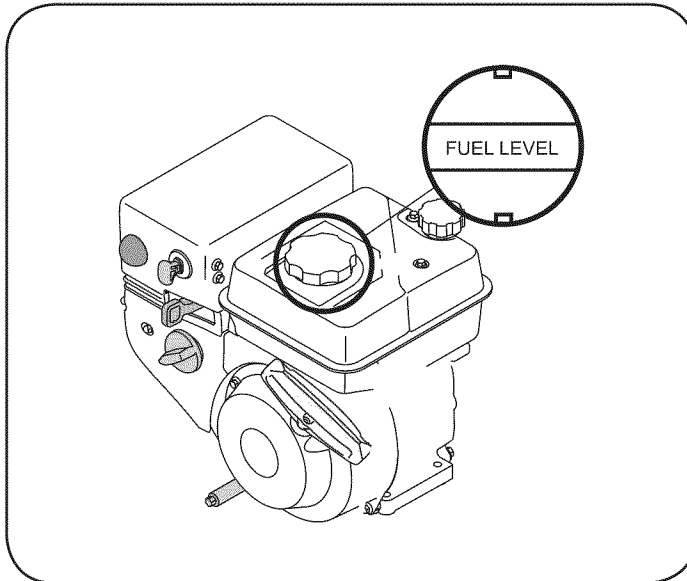

Figure 11
2. A fuel level indicator is located in the fuel tank. See Figure 11. Be careful not to overfill. Fill tank until fuel reaches the fuel level indicator to allow space for fuel expansion.